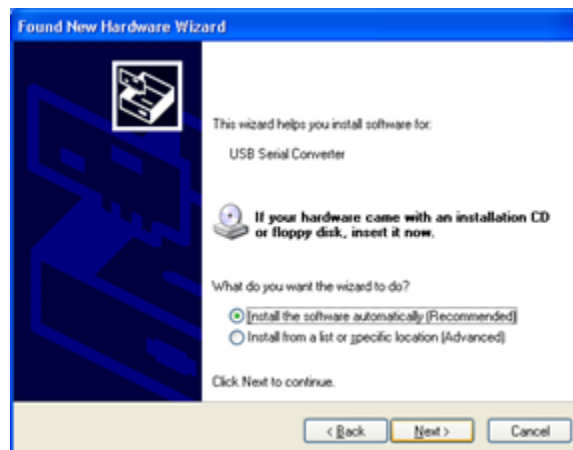

Figure 6: Automatic installation of the drivers, for Internet-connected PCs only
5. Select **Install USB Converter Software Automatically** only if the PC is connected to the Internet, as displayed in *Figure 6*.